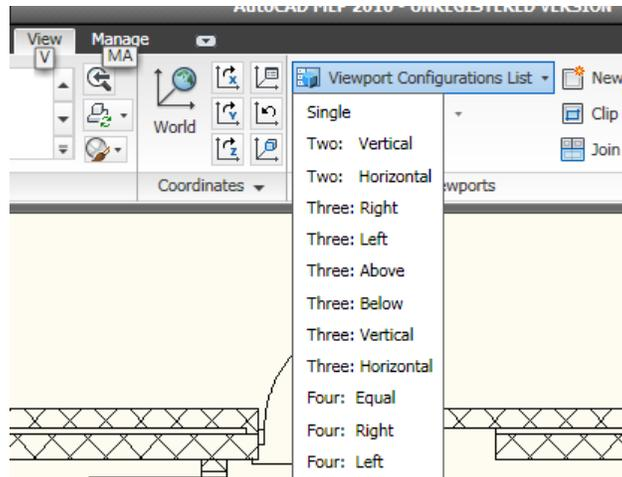

Figure 6.77
- On the View, tab on the Viewports panel, click the Viewport Configurations List drop-down button and then choose **Two: Vertical** (see Figure 6.77).